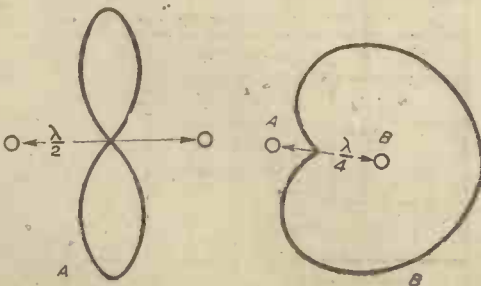

Fig. 81.—Simple "end-fire" array.
Fig. 81 (A) depicts two vertical aerials spaced  $\lambda/2$  apart; they are fed with energy in such a manner that radiation from both will be in phase. It follows that radiation along a line drawn through the aerials will cancel, maximum radiation occurring in the broadside direction. Note the polar diagram—Fig. 81 (A). This combination, therefore, is a simple "broadside" array.
If the two aerials are now placed  $\lambda/4$  apart and fed with energy in such a manner that one aerial radiates 90 deg. ( $\lambda/4$ ) behind or ahead of the other, then we have a simple "end-fire" array—Fig. 81 (B).
A reflector consists of a wire placed behind and in line with the actual aerial; it is not connected to a source of R.F. energy but relies upon its proximity to the energised aerial to receive energy by induction which it re-radiates. The distance between the energised aerial and the reflector in terms of the wavelength will govern the manner in which the two radiations—one from the energised aerial and one from the reflector—add, and hence the resultant radiation pattern and the directional properties of the system. A reflector could have been used in the place of aerial "A" in Fig. 81 (B) with similar results.